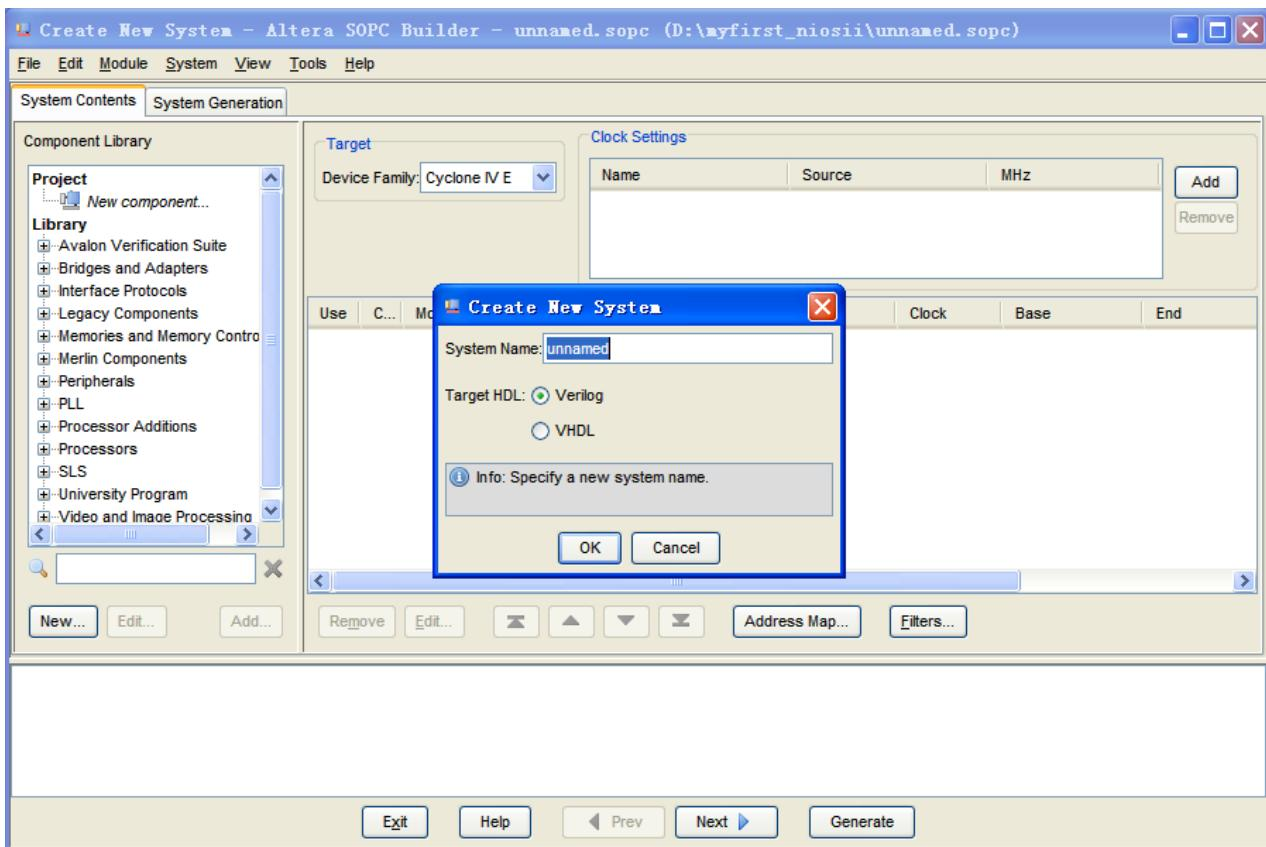

Figure 7-10 Create New SOPC System [0]
6. Rename System Name as shown in Figure 7-10 and Figure 7-11. Click **OK** and you will see a window as shown in Figure 7-12.